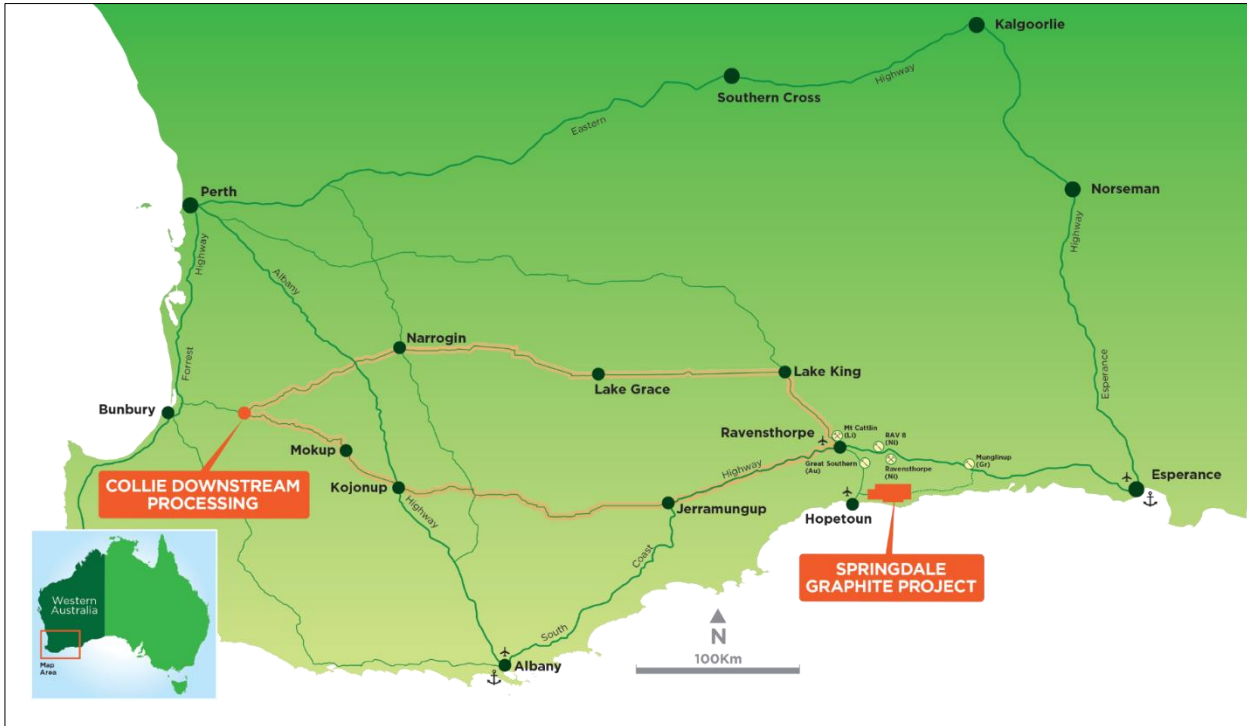

Figure 1: Location of International Graphite Projects.
International Graphite Limited (ASX:IG6) is pleased to announce the results of a further 10 reverse circulation (RC) exploration holes from drilling at the Springdale Graphite Project (“**Springdale**” or the “**Project**”), near Hopetoun and 25km south of Ravensthorpe in Western Australia (Figure 1).